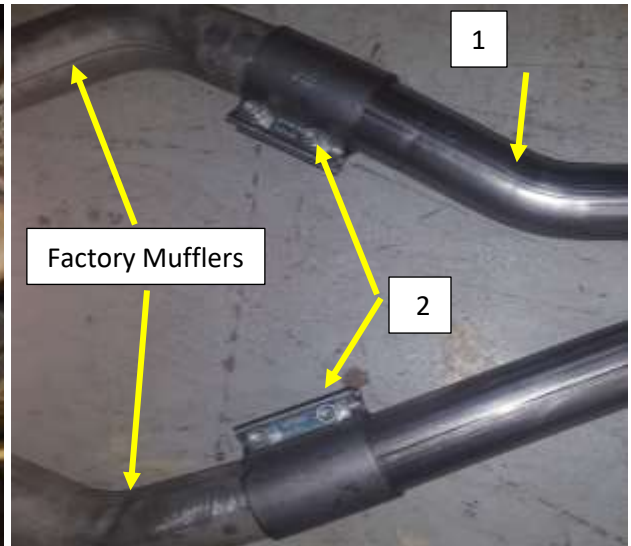

Figure 4
3. Install the supplied couplers (2) on to the Y-Pipe outlets (1). **Fig. 4**
4. Align the Factory muffler pipes and the Y-pipe inlets and slide the supplied couplers (2) on to the muffler pipes so the coupler has a 50/50 split between the Y-Pipe and the muffler pipes. **Fig. 4**